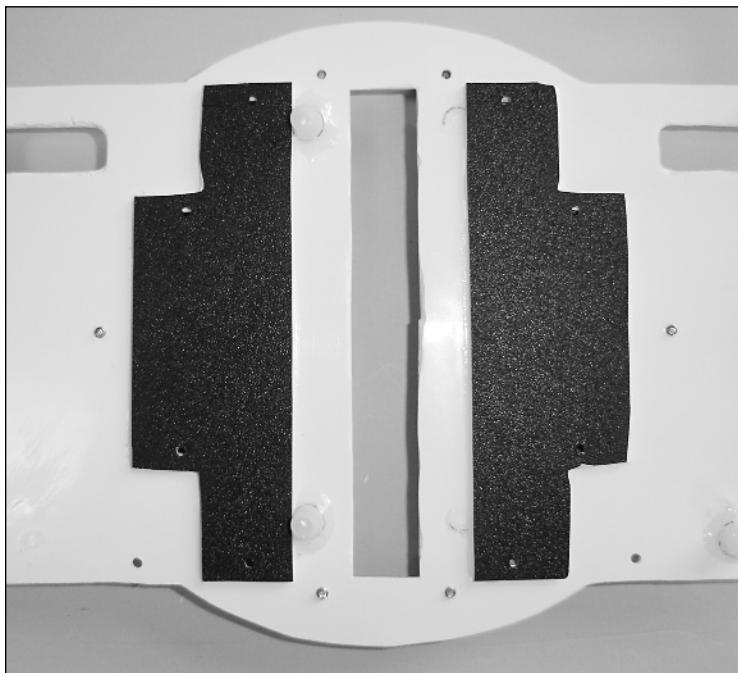

FIGURE 10-14: Gluing down the battery backers.
3. Superglue the battery backers to the inside of the rear plate as shown in Figure 10-14 (where the four screw posts are). The long edge of each battery backer should line up with the hole, and the rest of it will overlap the hole so that the glue has someplace to stick. On the inside of the battery compartments, all the holes should be showing, at least a little. As long as you can get one wire down each, you’ll be okay.